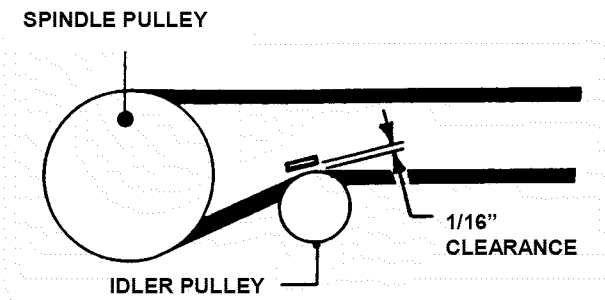

FIGURE 4.39
7. Adjust idler pulley belt guide if necessary to obtain 1/16" clearance between belt and belt guide. See Figure 4.39.